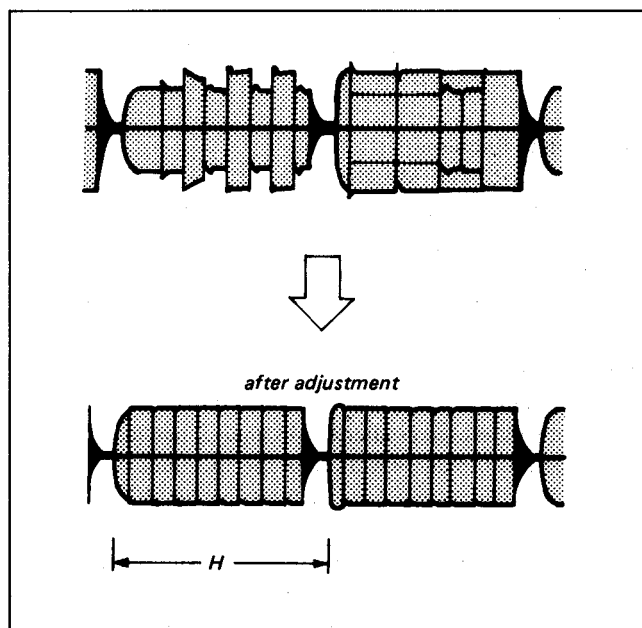

Fig. 5-40. Bell filter adjustment
- Adjust LV001 until the waveform is flat. (See Fig. 5-40)